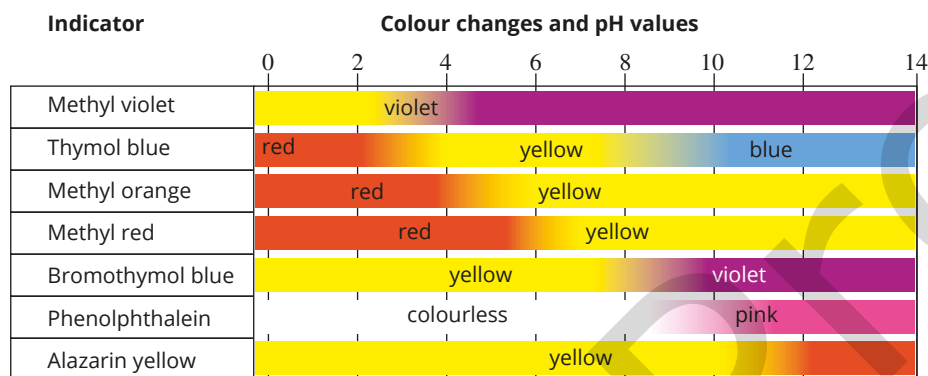

FIGURE 7.4.4 The colours of common indicators at different pH values
The colours of indicators are usually intense and highly visible, even at low concentrations. As Figure 7.4.4 and Table 7.4.3 show, different indicators change colour over different pH ranges.
- 2 Five test-tubes each contain the same solution, which has a pH of 5. A different indicator is added to the solution in each test-tube, as shown in the table below. Use the indicator colour chart in Figure 7.4.4 on page 165 to find the colour of each solution after the indicator was added.